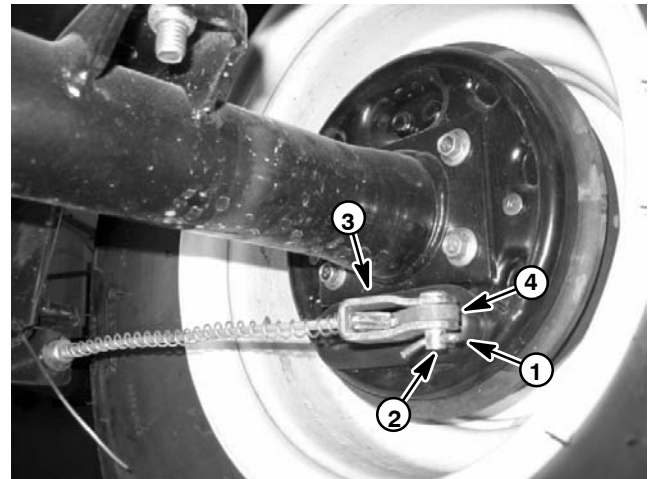

Figure 15
7. Remove cotter pins and clevis pins that secure brake cables to brake actuator levers (Fig. 15). Position brake cables away from transaxle assembly.